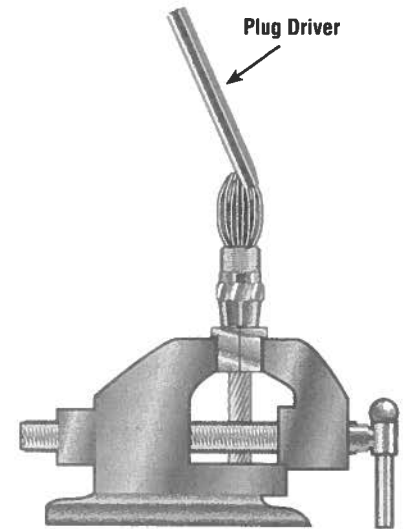

Figure 4
STEP 5: Form the rope around the plug. (Figure 4) Re-clamp the assembly in the vise on the flat sides of the sleeve. Using the hole in the plug driver, bend the outer strands toward the center so the socket can be easily applied over all the strands. On larger ropes, a hose clamp may be helpful.